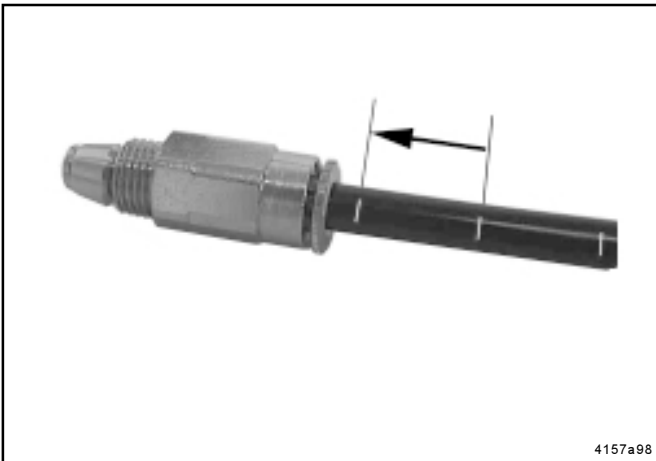

Fig. 28 - Check valve with knurled collet and pressure plastic tube
- The pressure plastic tubes are marked with white lines (Fig. 28) as an installation aid.